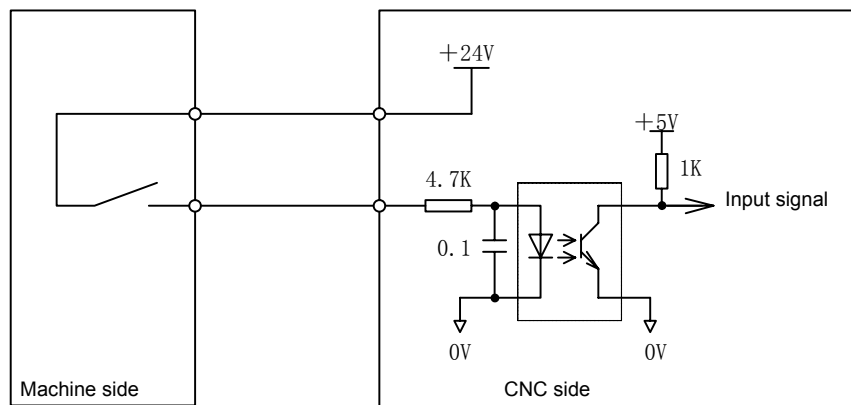

Fig. 3-2-1-1
b) Signal loop is as Fig 3-2-1-1: